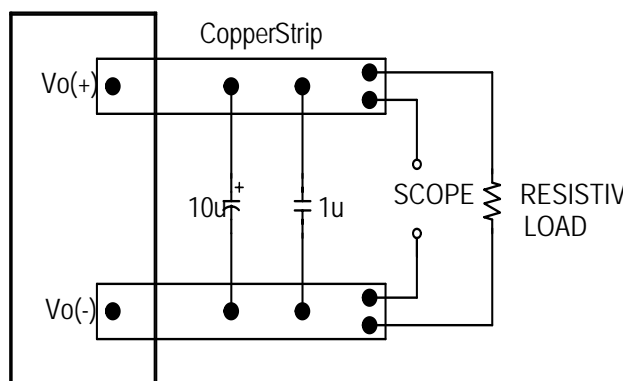

**Figure 12:** Input reflected ripple current,  $i_s$ , through a  $12\mu H$  source inductor at nominal input voltage and rated load current (20 mA/div).
**Figure 14:** Output voltage ripple at nominal input voltage ( $V_{in}=48V$ ) and rated load current ( $I_{o1}=I_{o2}=2.7A$ ) (20 mV/div). Load capacitance:  $1\mu F$  ceramic capacitor and  $10\mu F$  tantalum capacitor. Bandwidth: 20 MHz. (See Figure 12). Scope measurement should be made using a BNC cable (length short than 20 inch). Position the load between 51 mm and 76 mm (2inch and 3 inch) from the module.